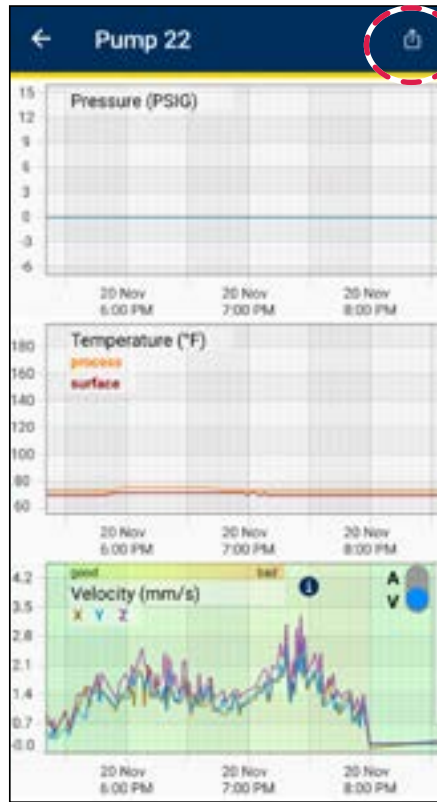

Figure 22
3. Select the export icon (see figure 22).